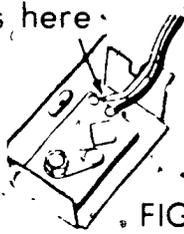

FIGURE 7
- 4 Replace defective half-wave rectifier (Figure 7)
- b Pry off fiber board exposing soldered connections between rectifier and stator leads (Figure 7)